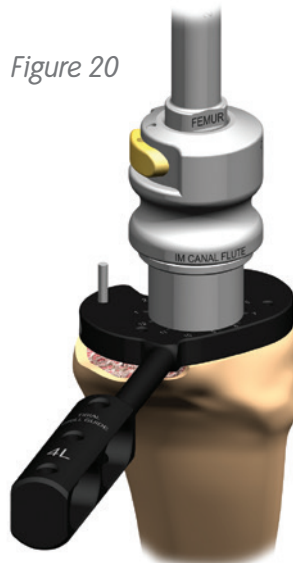

Figure 20
8. Insert the Counterbore Reamer Assembly into the guide bushing and ream until the depth stop makes contact with the guide bushing (*Figure 20*). Remove the Counterbore Reamer Assembly.